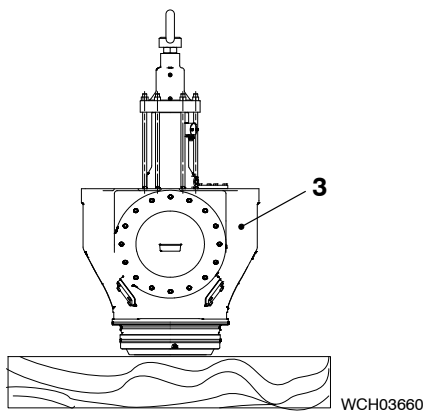

Fig. 4
- 13) Lift, then lower the cylinder cover (4, Fig. 4) and the exhaust valve assembly (3) on to wooden supports.
- 14) Apply tension to the elastic studs (1), refer to 9403-4
- 15) Remove the round nuts (2).
- 16) Operate the engine room crane to lift the exhaust valve assembly (3) approximately 10 mm. Make sure that the cylinder cover stays on the wooden supports.
- 17) Fully lift the exhaust valve assembly (3) from the cylinder cover.
- 18) Carefully lower the exhaust valve assembly (3) on to wooden supports.